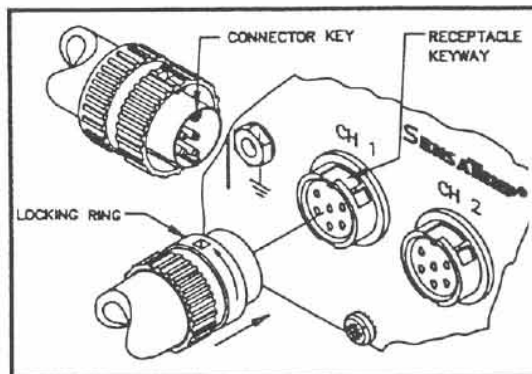

Figure 3. Handpiece Connection
9. Using Figure 3 as a guide, connect handpiece(s) connector(s) to power source Power Receptacle(s) in the following manner: